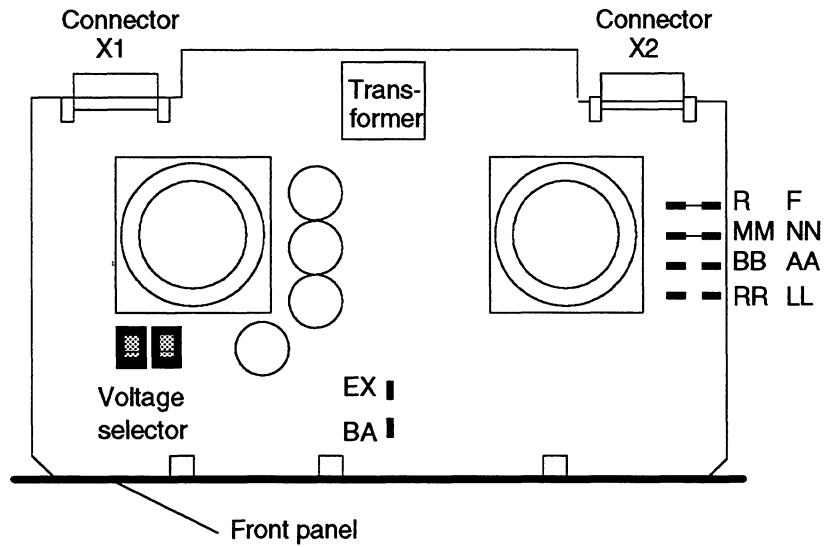

Fig. 11 Power supply unit 6ES5 955-3LF12
- Once the new battery is fitted and the power is on, press the RESET button on the power supply module (see Fig. 11).